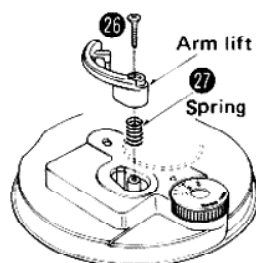

Fig. 8
2. Remove the arm lift setscrew and springs (Fig. 8 26, 27) to detach the arm lift.